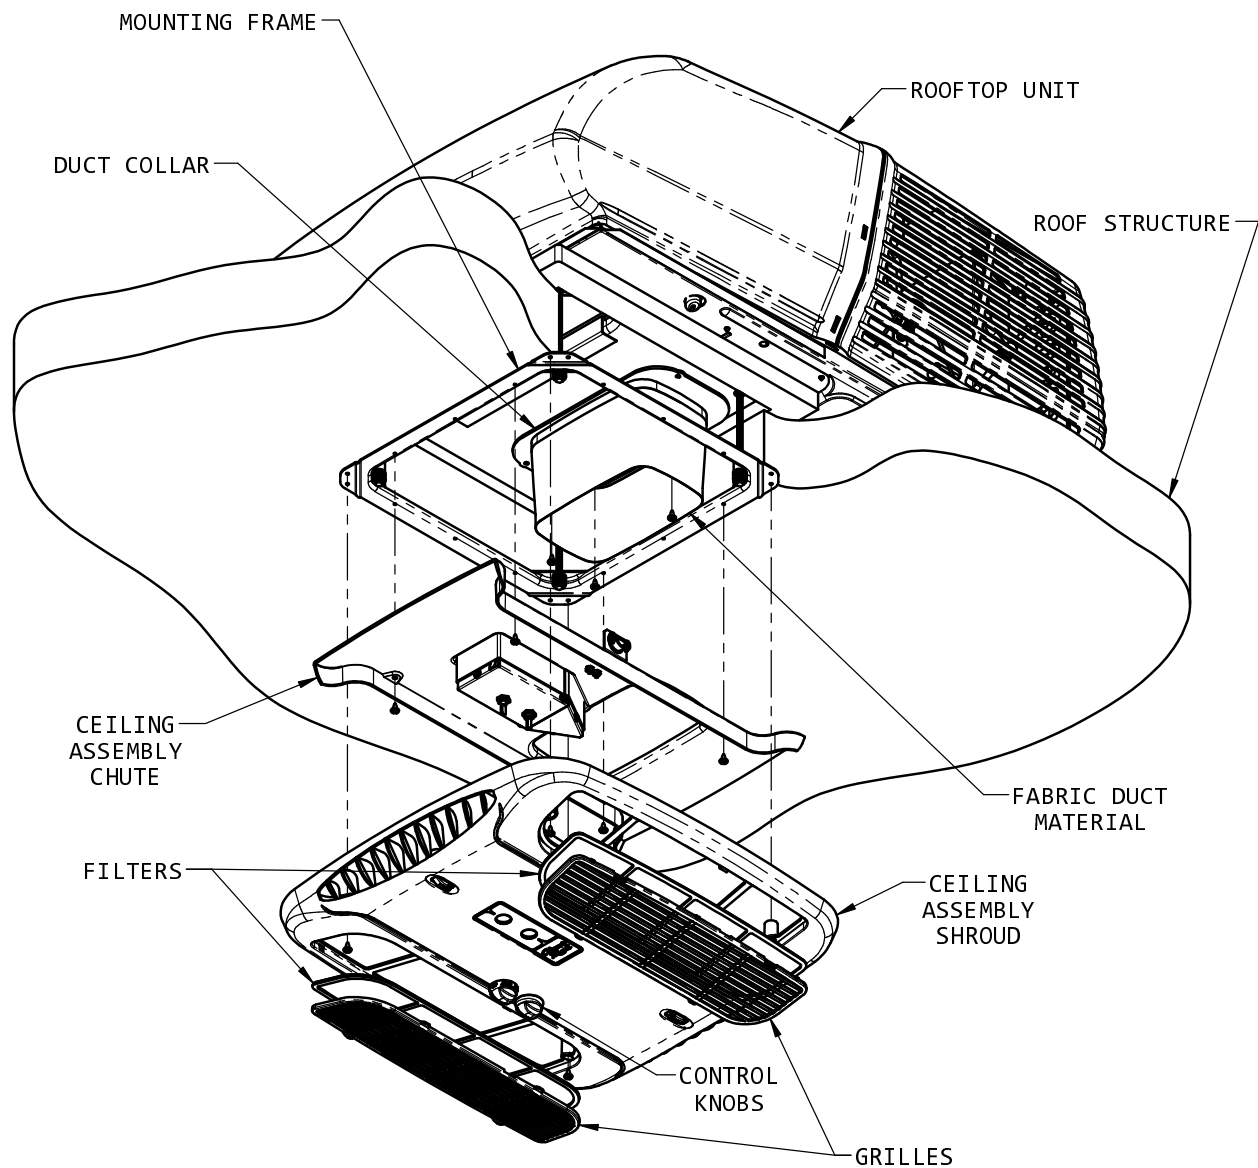

FIGURE 11
- B. Fasten the duct collar to the air conditioner basepan with 3 provided screws (See Figure 11).
- H. Raise the ceiling assembly chute to the unit mounting frame and secure the chute with 4 provided screws (See Figure 11).
- K. Raise the ceiling shroud and while insuring it meshes with the chute, secure to mounting frame with 4 provided screws (See Figure 11).